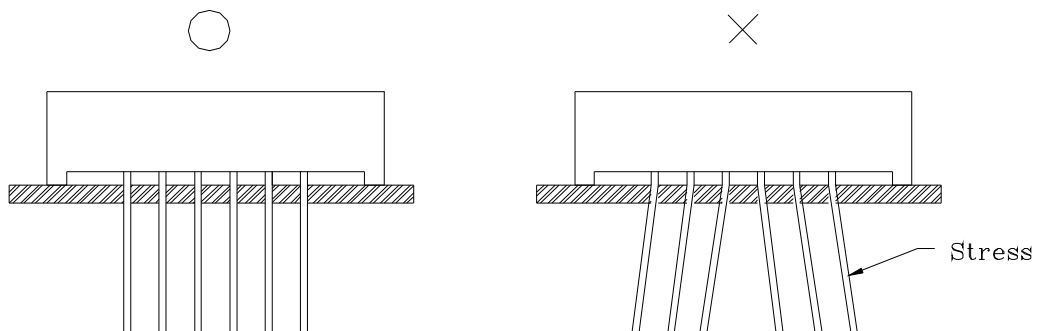

Fig.6
3) Form the PIN to ensure alignment between the PIN and the hole on board, so that stress against the Display is prevented. (Fig.6)